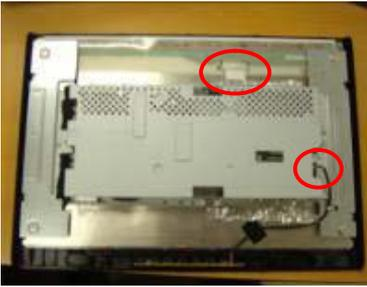

Fig.9
- c. Remove the cables as shown in Fig.9